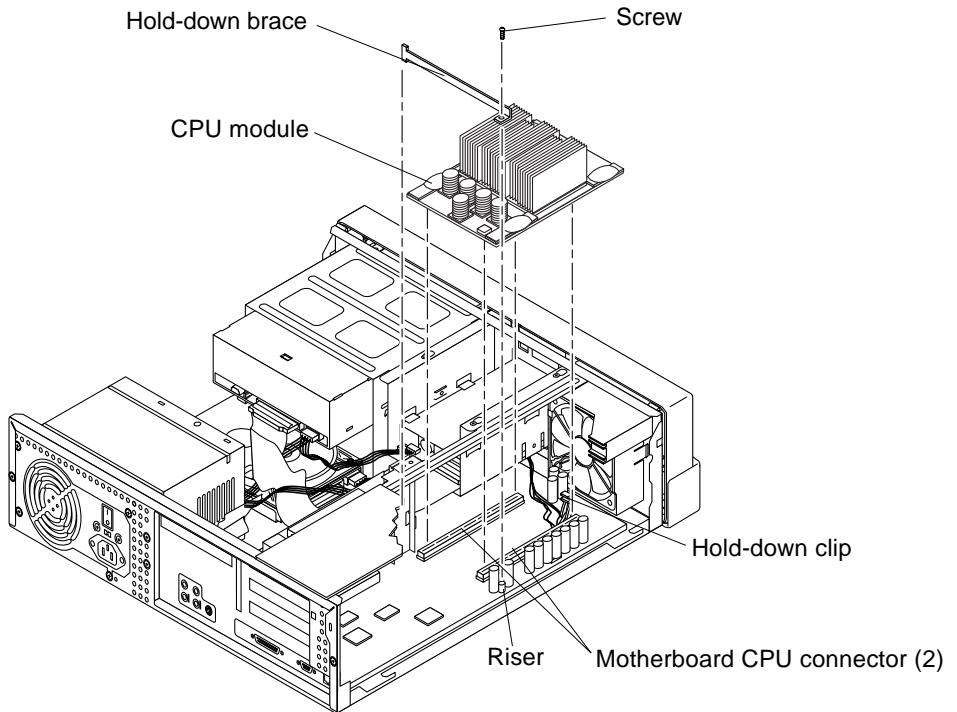

FIGURE 8-1 Removing and Replacing the CPU Module
3. Remove the CPU module as follows (FIGURE 8-1):
- 1. Replace the CPU module as follows (FIGURE 8-1):**